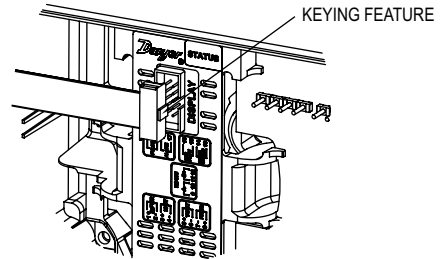

Figure 5
6. Insert one connector of the ribbon cable supplied in the setup kit into the connector labeled "Display" in the middle of the unit. Be sure to orient the keying feature/ tab. See Figure 5 below: